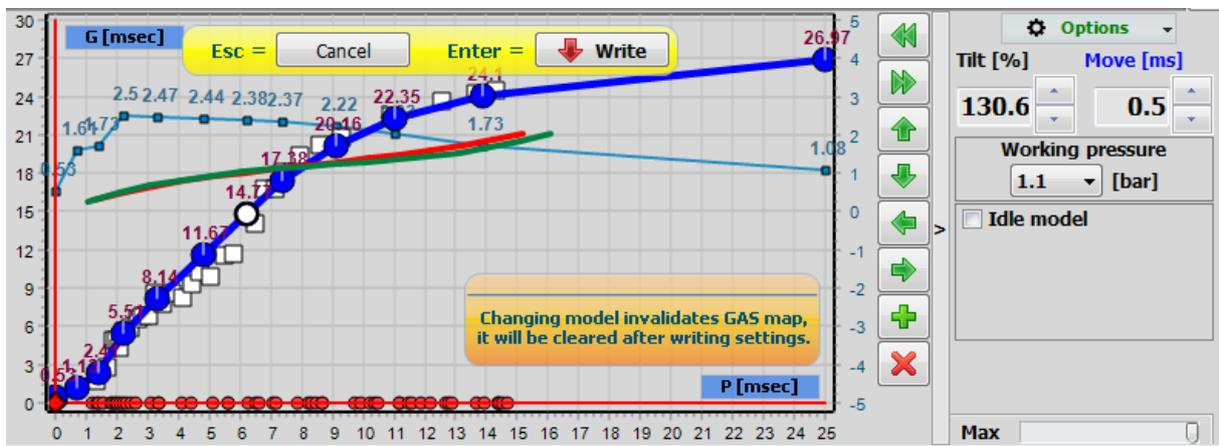

Fig. 2.75 Model with idle calibration
- **Idle calibration** – the chart also shows an additional idle running model consisting of two points (P1 – work w/o load on idle, and P2 – full load on idle), which is used during engine operation calibration idling (RPM below 1200) (**Fig. 2.75**). Points P1 and P2 are represented by two green squares connected by a green line.